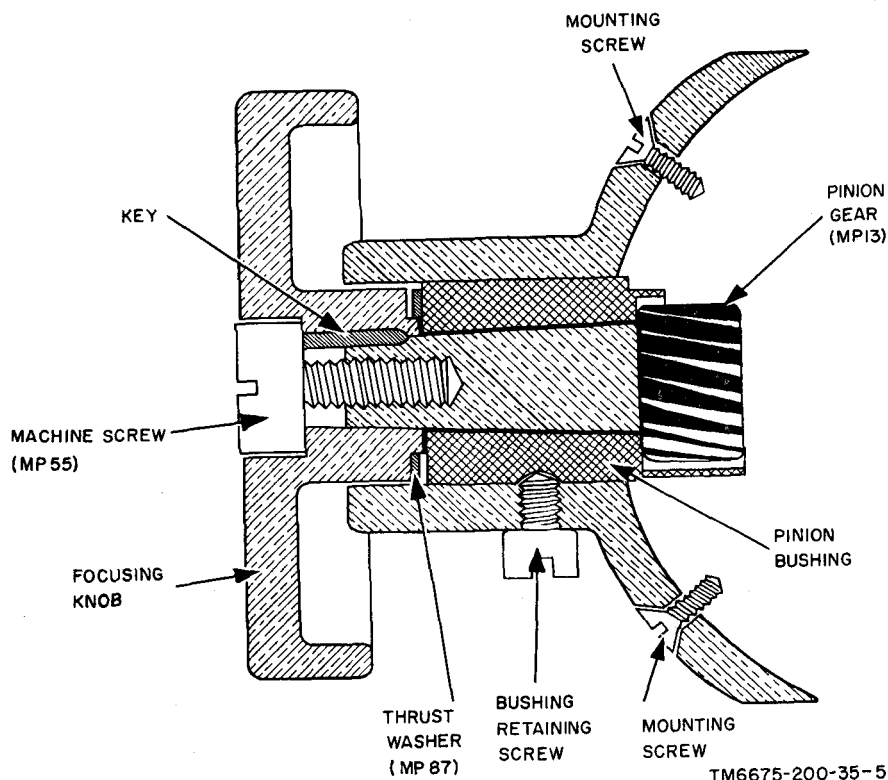

Figure 5. Focusing knob and pinion assembly.
- (1) Remove the mounting screws.
- (2) Disengage the pinion gear (MP13) (fig. 5) and draw the assembly from the eyepiece tube (fig. 3).
- (3) Disassemble the focusing knob and pinion assembly as follows:
- (a) Remove the machine screw (MP55) (fig. 5).
- (4) Clean and inspect the parts as follows:
- (6) Unscrew the internal focusing lens (MP4) from the internal focusing tube,
- (7) Clean the parts as follows:
- (8) Inspect the parts and repair or replace as necessary.
- (9) Lubricate the focusing tube and rack gear as follows:
- (10) Screw the internal focusing lens (MP4) into the internal focusing tube.
- (11) Slide the internal focusing tube into the eyepiece tube so that the rack gear is aligned with the pinion gear hole (not shown).
- (12) Insert the pinion gear through the pinion gear hole; the pinion gear (fig. 5) must mesh with the rack gear.
- (13) Replace the mounting screws.
- (14) Check the focusing assembly for satisfactory operation.
- (15) Replace the cross hairs reticule and cross hairs lampholder (par. 12), and the focusing eyepiece and focusing eyepiece cap (par. 11).